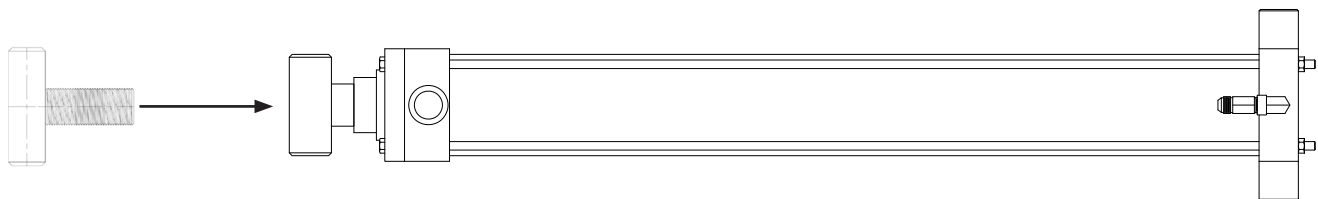

Figure 8
3. Take the "T" bar weldments from the included parts and install into both main cylinders as shown in Figure 8. Turn "T" bars clockwise all the way in.